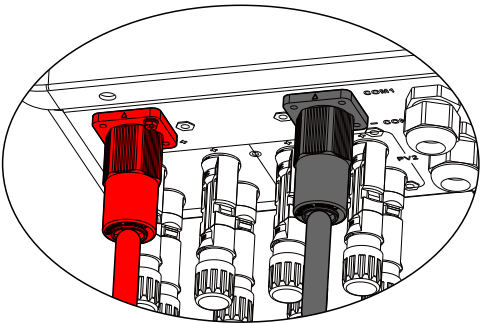

Figure 4.2-6 The battery terminal is connected to the inverter
Step 5: Connect the battery terminal to the inverter. Ensure that the battery polarity is connected correctly, as shown in Figure 4.2-6.